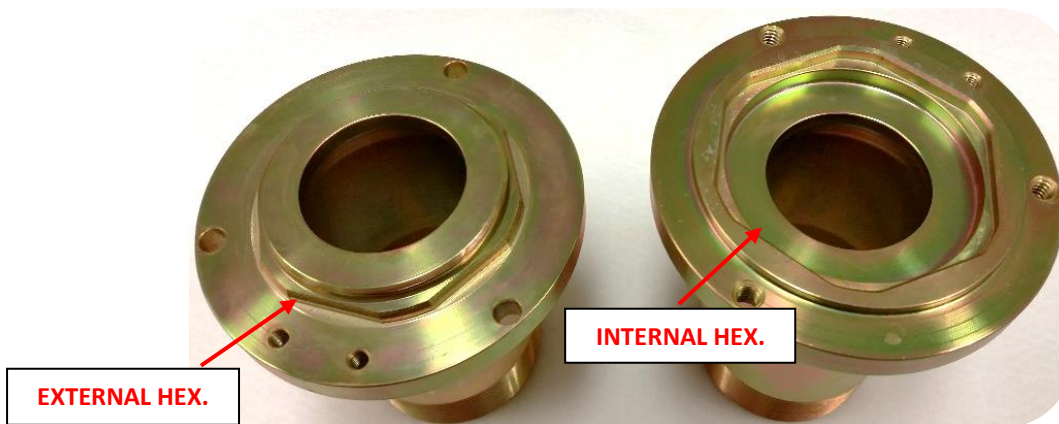

Figure 2 - Mechanical Lock Feature Between BAV Bodies (no other parts shown)
- An internal hex on the mating faces of each BAV body to provide a mechanical “lock” against any contra-rotation (i.e. twisting) of each body – refer Figure 2. The key benefit of this feature is basically to help preserve the integrity of the BAV shear studs during installation and servicing of a BAV assembly.